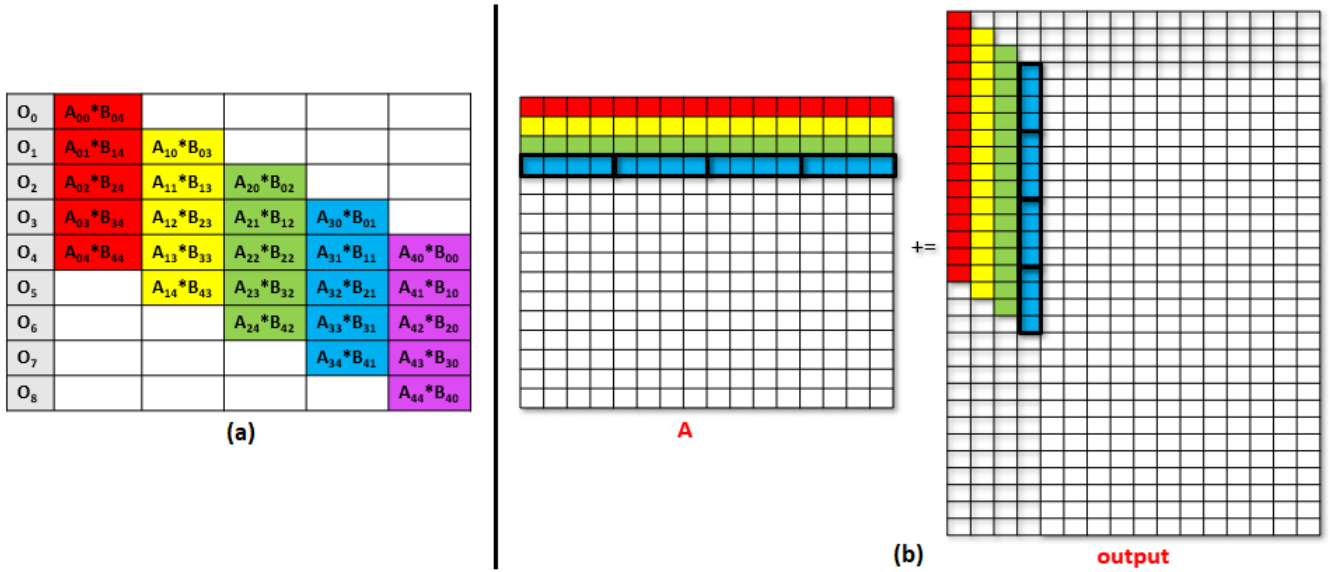

Figure 4: (a) Adding products to Output array for  $5 \times 5$  matrix
- *Figure 4(a)* recalls how the products computed are added to the *Output* array for a sample example of  $N = 5$ . We illustrate the computations done in Phase 2, by bringing back our toy example. As shown in *Figure 4(b)*, we would need to add elements sitting in *A*, row-by-row to the output array.